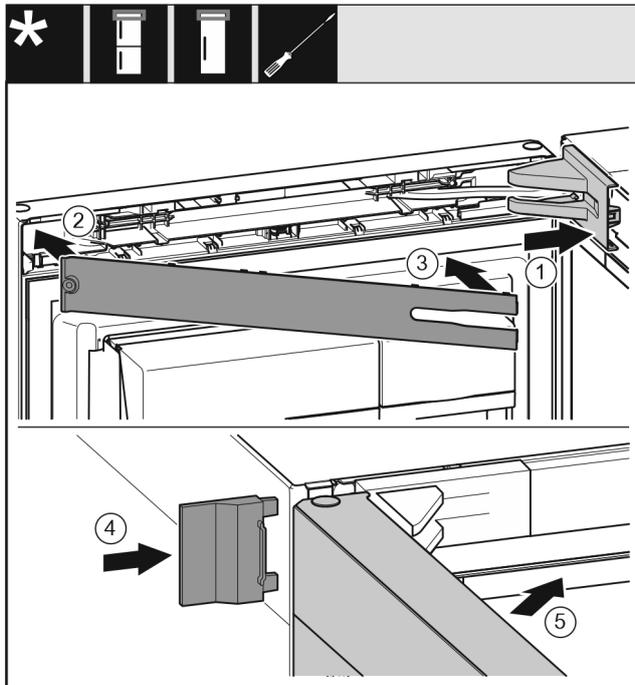

Fig. 57
- ▶ Put the swap bearing block cover Fig. 57 (1) on and engage, push apart carefully if required.
- ▶ Fit the trim Fig. 57 (2).
- ▶ Swivel in the cover Fig. 57 (3) and engage.
- ▶ Push the outer cover Fig. 57 (4) on.
- ▶ Close the upper door Fig. 57 (5).